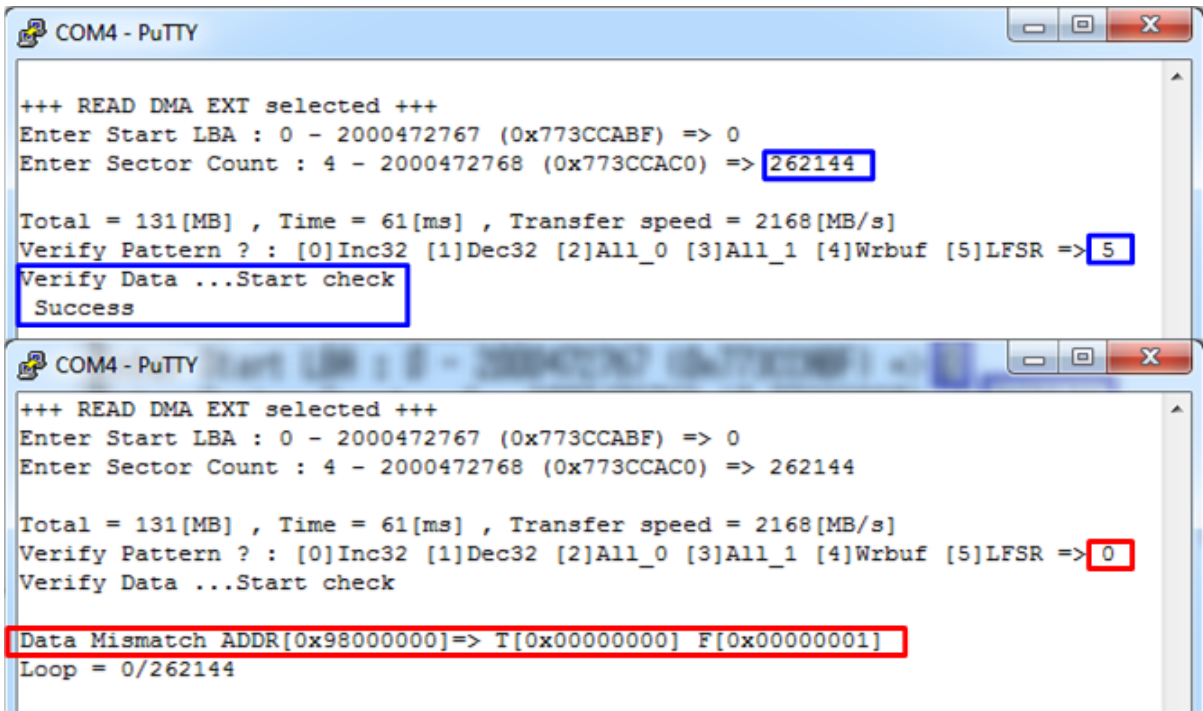

Figure 3-7 READ DMA (EXT) with verification process
- Verify Pattern (Optional): this value is used for selecting verification pattern. This input should be matched with the pattern in WRITE DMA (EXT) menu. Six verification patterns can be selected, similar to write pattern. "Verify Data ... Success" is displayed for success case, and "Data Mismatch with failure value" is displayed for failure case, as shown in Figure 3-7.